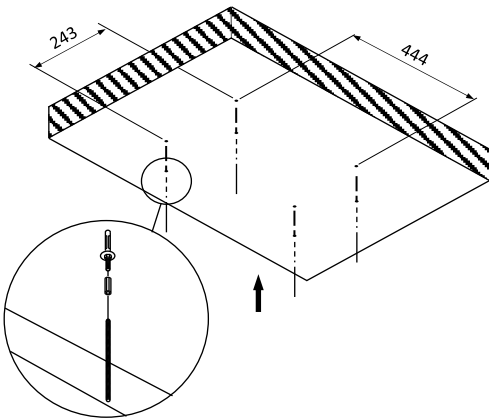
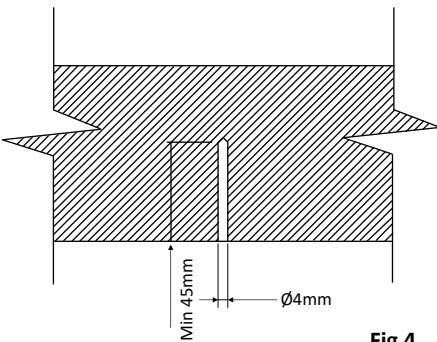

Fig 3
Fig 4
1. Drill a $\varnothing 4\text{mm}$ hole in the ceiling (Fig 4) at the 4 anchor locations (Fig 3).